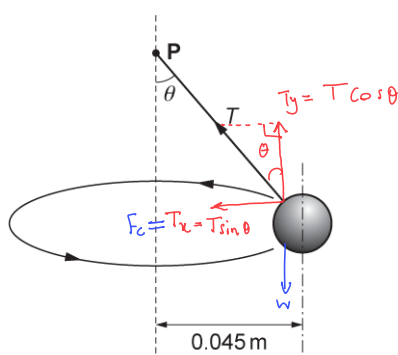

Fig. 6.2 (not to scale)
In Fig. 6.2 the ball is moving in a horizontal circle of radius 0.045 m around a vertical axis through P with a period of 0.67 s. The string is at an angle θ to the vertical. The tension in the string is T .
On Fig. 6.2 draw and label one other force acting on the ball.
i. Calculate the extension x of the string shown in Fig. 6.2.
(d). Returning to the situation shown in Fig. 6.2, state and explain what happens when the rate of rotation of the ball is increased.